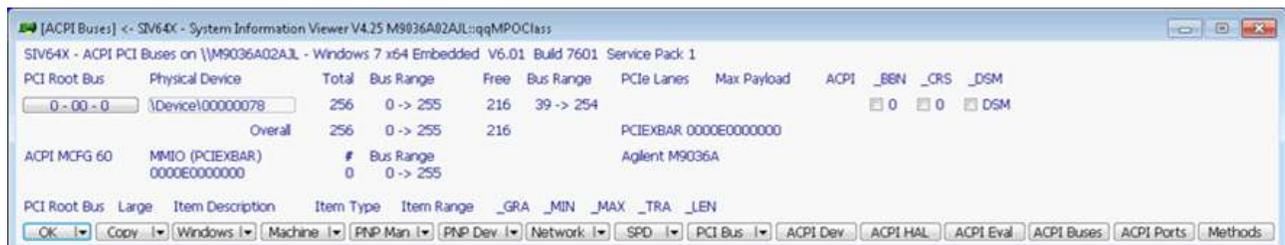

Figure 7. Screenshot showing SIV window.
- You will see a window that appears as shown below. The key attribute to look for is the Free column. These are the free PCI bus numbers available for enumeration. For example, in Figure 7, we see 216 free buses are available.